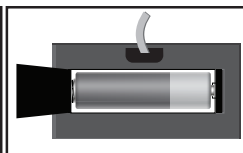

Figure 7.3
3. Remove and replace the AAA battery and then close the cover and slide back into the locked position (Figure 7.3).